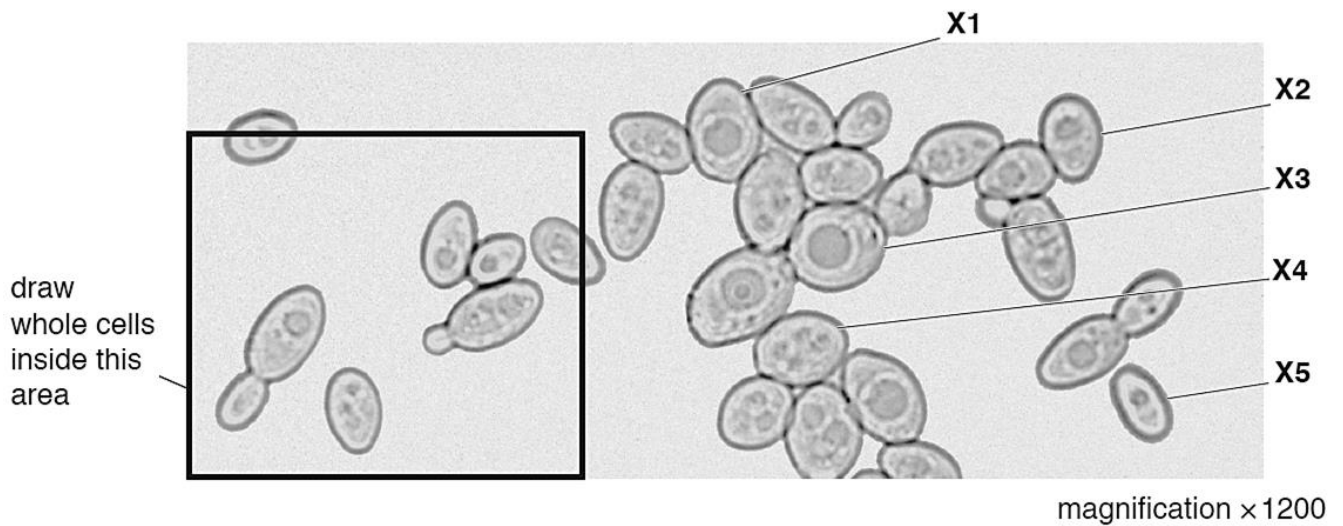

Fig. 2.1
Fig. 2.1 is a photomicrograph of yeast cells.
- (b) (i)** Make a large drawing of the whole cells shown in the area on Fig. 2.1.